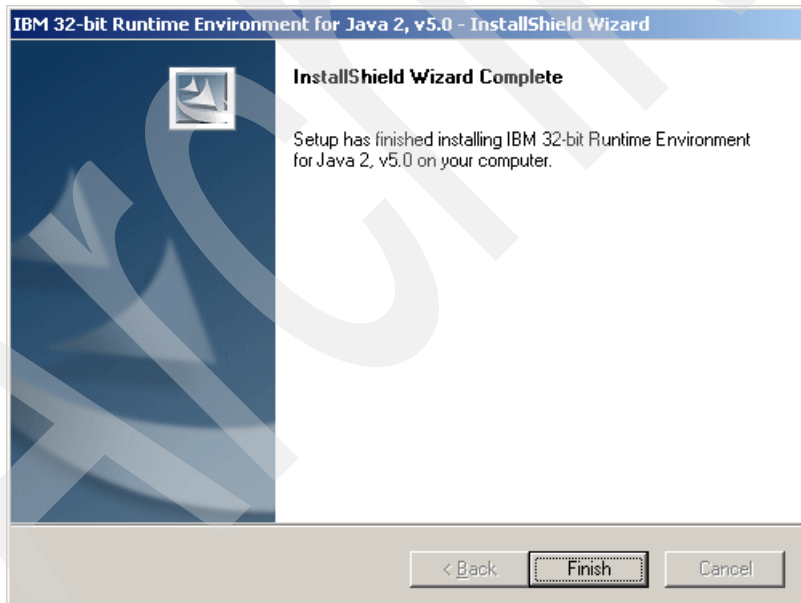

Figure 6-8 InstallShield Wizard Complete window
7. The InstallShield Wizard Complete window (Figure 6-8) is displayed. Click **Finish** to complete the installation.